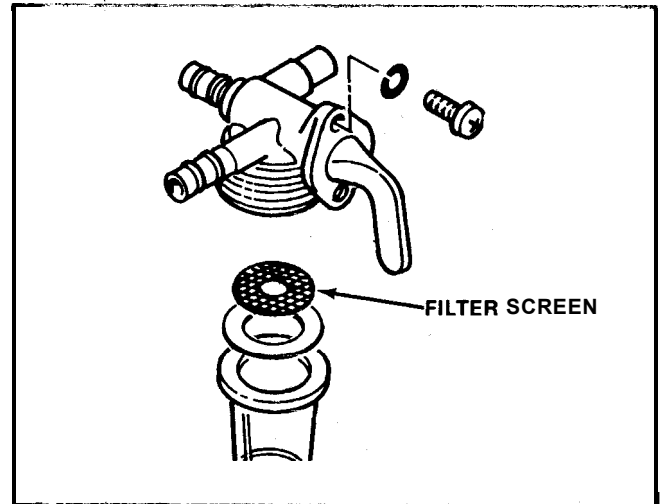

Figure 4
6. The filter screen is located in the head of the bowl and may be removed and cleaned at this time. See Figure 4.